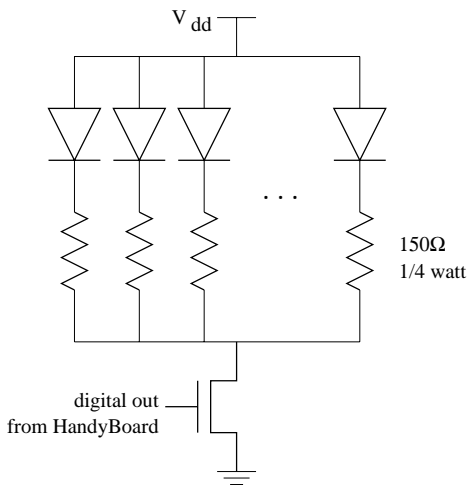

Figure 2.5: Power FET circuitry with LEDs
1. Except for those given in the kit, batteries, motor driver circuitry, and microprocessors of any kind may not be used. Motor driver circuitry includes motor driver chips, relays, and power transistors. The only exception to this are power FETs that are supplied by the staff, which can be used to drive anything but actuators (the FETs may drive such things as LEDs and speakers). See Figure 2.5 for the circuit. Talk to a staff member if you are interested in doing this.